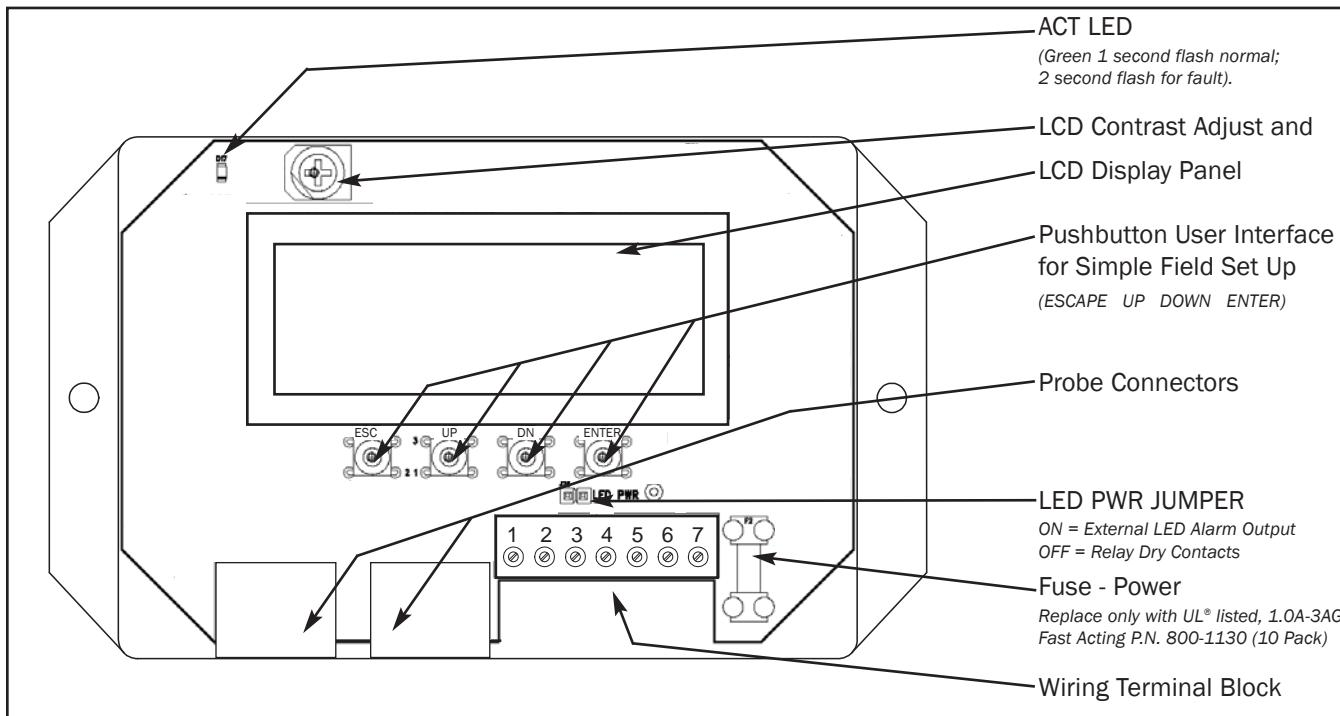

Figure 5. GF-2100-A/GF-2200-A Main Circuit Board Detail
Transmitter wiring consists of connecting the 24VAC input power, the analog output signal wires and optional alarm output wires at the GF-2100-A/GF-2200-A. Refer to Figures 5 and 6 for additional detail. Following installation, the airflow measurement station is ready for operation. Custom setup options (other than the default values) can be entered in the GF-2100-A/GF-2200-A Transmitter Setup procedure detailed later in this document.
1. Remove the four cover retaining screws at each corner of the transmitter cover in order to gain access to the transmitter Wiring Terminal Block on the main circuit board shown in Figure 5.
3. Connect 24 VAC power to terminal 7, and the 24V ground at terminal 6 of the wiring terminal block as shown in Figures 5 and 6, observing the previous wiring precautions.
4. Connect OUT1 Analog/PID Output signal wire at terminal 3, and the signal ground at terminal 2 as shown in Figures 5 and 6 while observing the previous wiring precautions.
5. Connect OUT2 Analog/PID Output signal wire at terminal 1, and the signal ground at terminal 2 as shown in Figures 5 and 6 while observing the previous wiring precautions.
The GF-2100-A/GF-2200-A provides an alarm output that can be configured as relay dry contacts, or as direct drive (15 mA typical) for an external LED alarm indicator. The alarm output interface is set using the LED PWR jumper on the main circuit board as shown in Figure 5. With the LED PWR jumper on, the alarm output is set to provide an external LED drive (15 mA typical) at terminal 4, with ground return at terminal 6. With the LED PWR jumper OFF, the alarm output is set to provide relay dry contacts between terminals 4 and 5 (contacts rated at 30VDC/24VAC 3 amps maximum). The Alarm can be set as contacts close or contacts open on alarm as detailed in the Transmitter Setup menu later in this manual.
The alarm interface can be configured as relay dry contacts (30VDC/24VAC 3 amp maximum either N.O. or N.C.) or as direct LED drive output (15 mA typical) using the LED PWR jumper on the transmitter circuit board shown in Figure 5.